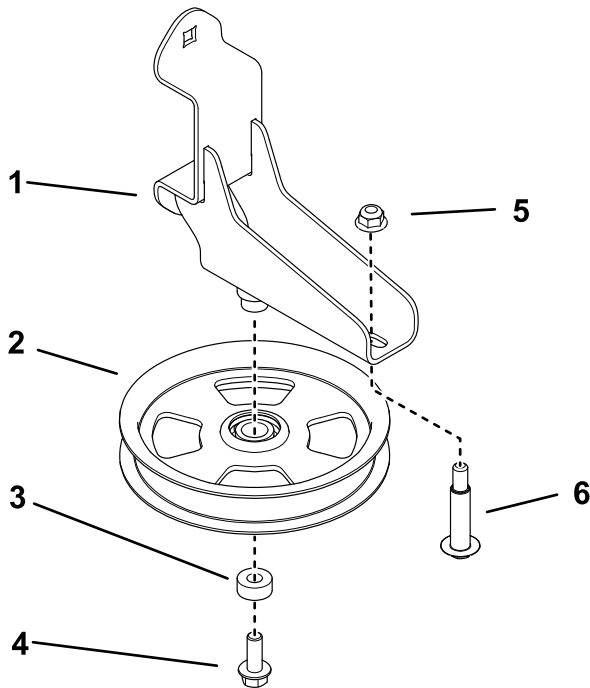

Figure 5
1. Secure the idler pulley to the mounting bracket using the hex-flange head bolt, and spacer (Figure 5). Torque the bolt to 37 to 45 N·m (27 to 33 ft-lb).
2. Install the shoulder bolt to the mounting bracket using a nut (Figure 5). Torque the bolt to 37 to 45 N·m (27 to 33 ft-lb).